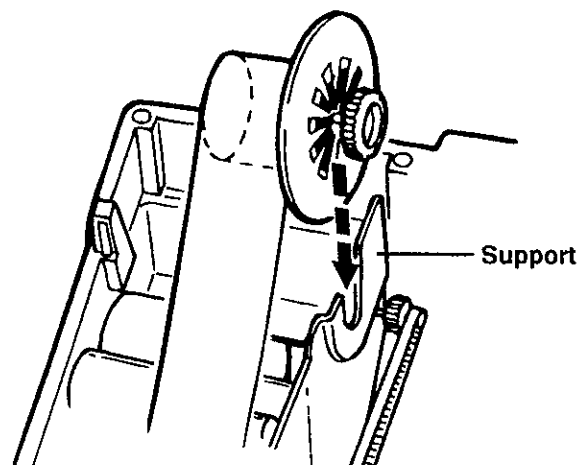

Fig.7
5. Load the take-up reel into the support (See Fig.7).